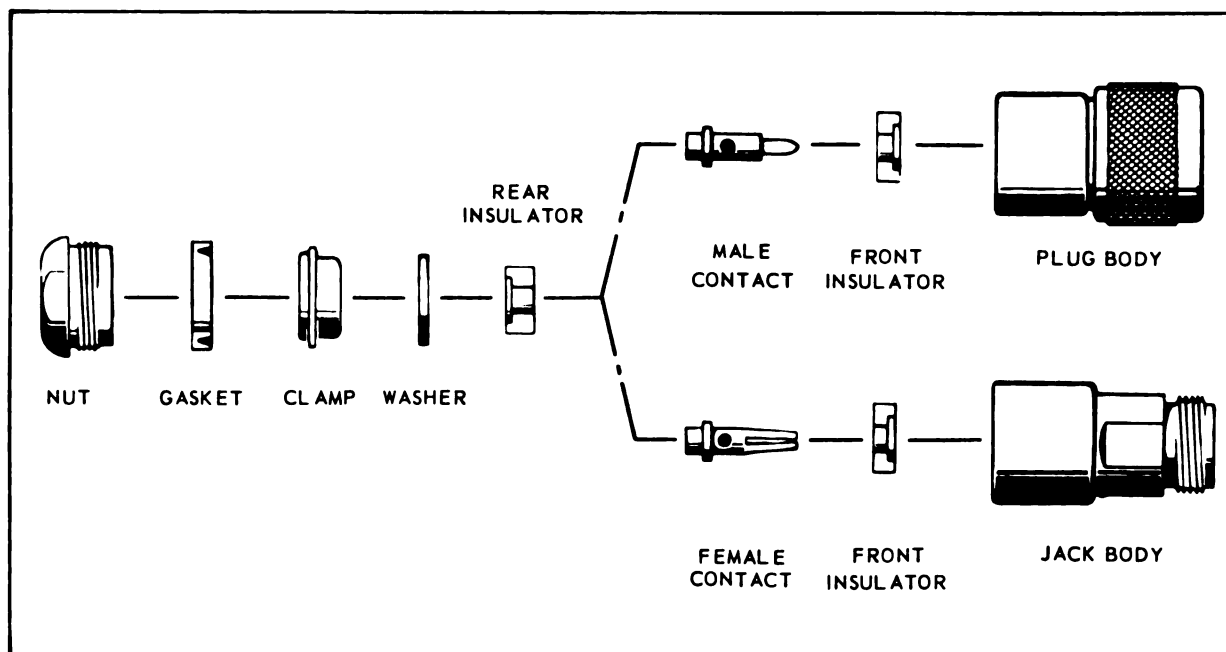

Figure 4-26. N Connectors with Captivated Contacts - Exploded View
b. Captivated Contact Version (See figure 4-26) - consists of a body assembled to coaxial cable with nut, grooved gasket, clamp, washer and front and rear insulators. The plug body assembly omits the rear insulator. Plug UG-1185/U and Jack UG-1186/U are typical of this version.